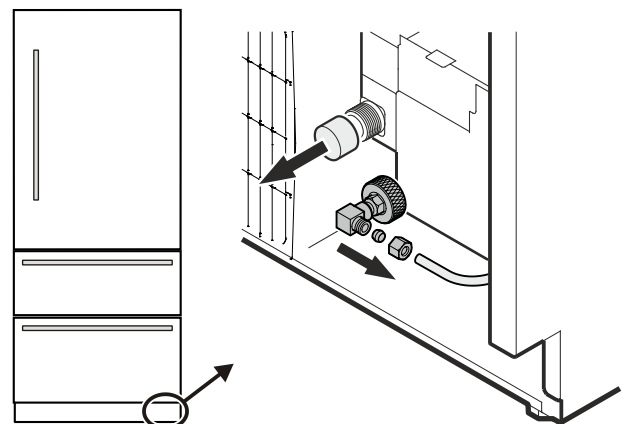

**Figure 16**
4. Push the appliance slowly to the back wall until the compressor mounting plate makes contact with the anti-tipping bracket (**Figure 16**).
**To prevent the appliance from tipping forward the compressor mounting plate must have contact with the anti tipping bracket (**Figure 16**).**